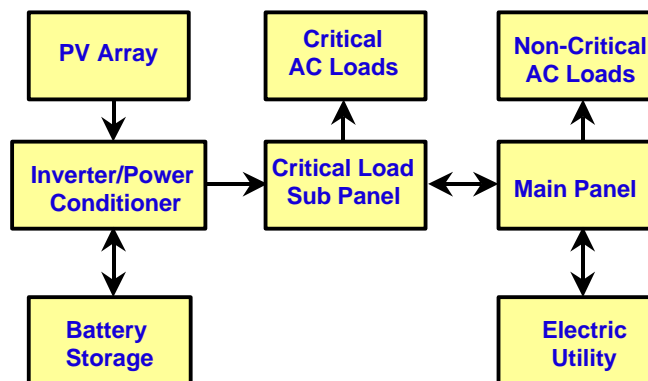

Figure 8. Diagram of grid-connected critical power supply system.
A. Yes, however battery storage must be used. This type of system is extremely popular for homeowners and small businesses where critical backup power supply is required for critical loads such as refrigeration, water pumps, lighting and other necessities. Under normal circumstances, the system operates in grid-connected mode, serving the on-site loads or sending excess power back onto the grid while keeping the battery fully charged. In the event the grid becomes de-energized, control circuitry in the inverter opens the connection with the utility through a *bus transfer mechanism*, and operates the inverter from the battery to supply power to the dedicated loads only. In this configuration, the critical loads must be supplied from a dedicated sub panel. Figure 8 shows how a PV system might be configured to operate normally in grid-connected mode and also power critical loads from a battery bank when the grid is de-energized.